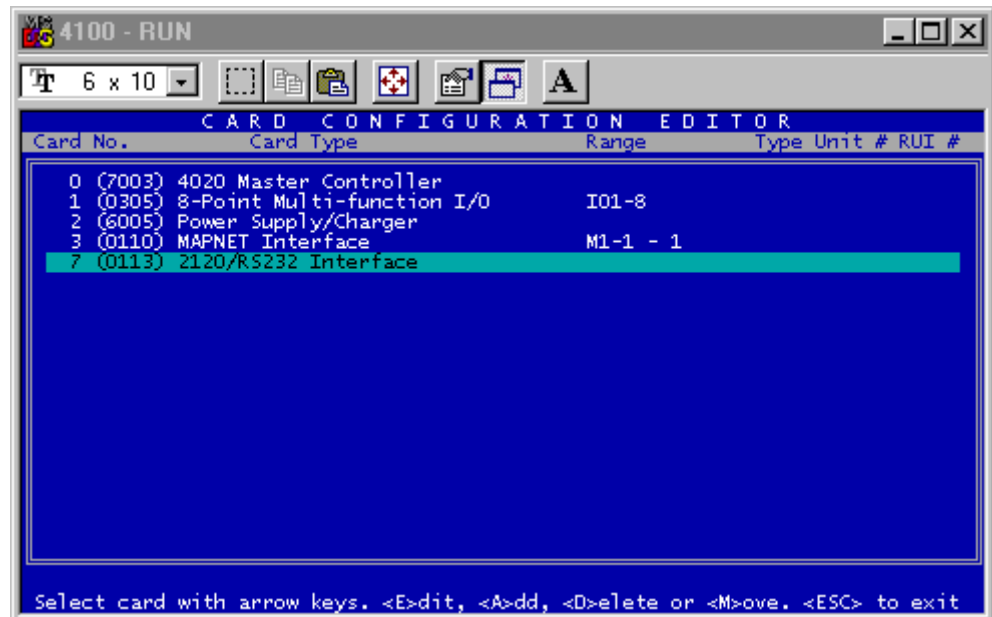

Figure 11. Card Configuration Editor
- Press A to add the SafeLINC FPII card. Figure 11 shows the card added as a 2120/RS232 Interface Card. With this card highlighted, press Enter to go to the 2120 Interface/RS232 Card Data Entry Screen